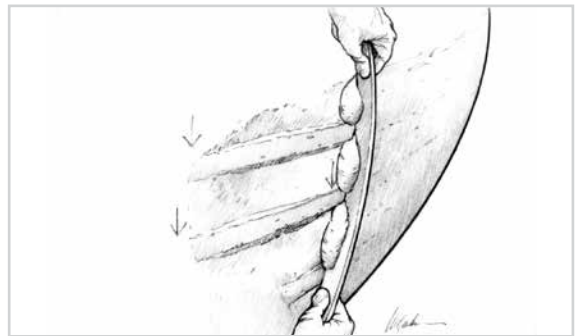

Figure 14-12 Drag the batten along the guides, removing excess mixture and leaving the surface between the guides smooth and level with the
10. Shape the fairing mixture before it begins to gel, using an appropriate batten. With the batten held perpendicular to and pressed to the guides, drag it along the guides. The batten will follow the guide profiles, removing excess mixture and leaving the surface between the guides smooth and level with the guides (Figure 14-12). To give yourself